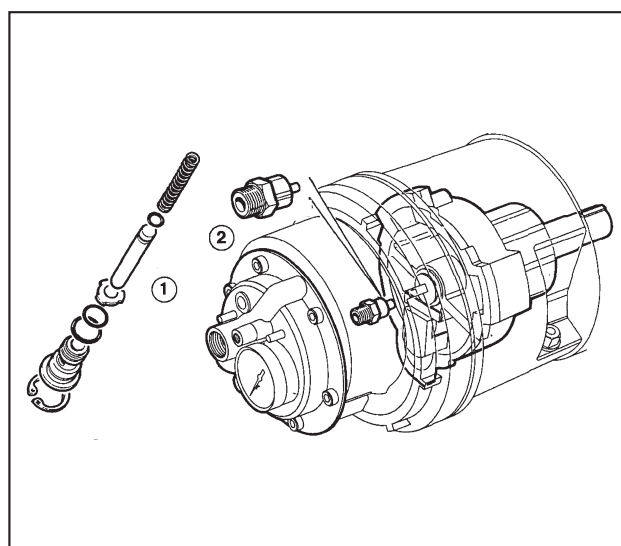

Figure 5.3 - Minimum Pressure Valve and Safety Valve Lift Pressure
E - Minimum Pressure Valve ① (Fig. 5.3)
F - Safety Valve Lift Pressure ② (Fig. 5.3) (Where fitted)